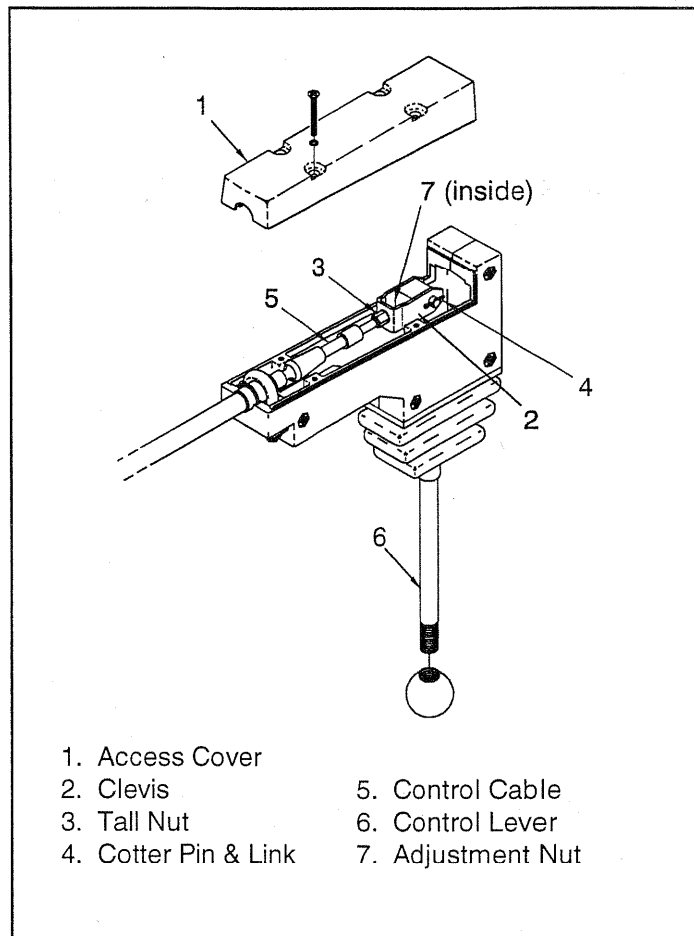

Fig. 3-2 Control Cable Adjustment
Adjustment (See Fig. 3-2)
E. Disconnect the control cable from the control lever. See Fig. 3-2.